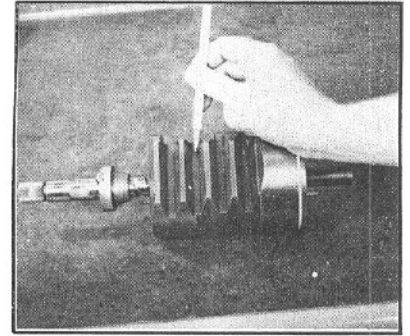
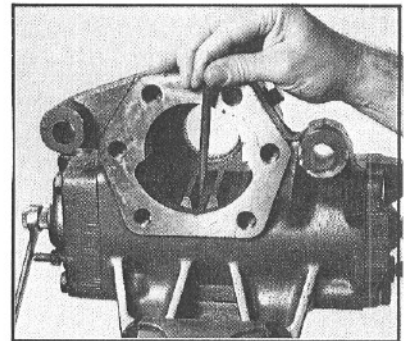

Figure 138
Figure 139
37. There are four teeth on the rack piston (31) (FIG. 138). Position the rack piston so that the tooth space identified by the pencil in FIG. 138 (it is the space between the second and third teeth) is in the center of the sector shaft opening (FIG. 139). This will center the rack piston in the opening.